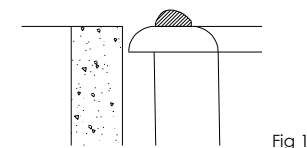

Fig 1.
- Apply a continuous generous bead of good quality silicone onto the rim around the upper perimeter of the sink (fig 1).